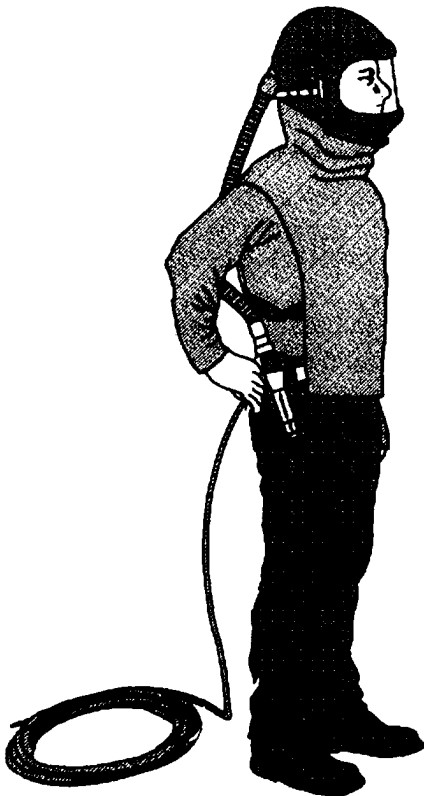

Figure 1-12.—Abrasive sandblasting hood.
3. Wear personal protective equipment. Include a supplied-air sandblasting hood, shown in figure 1-12, and hearing and hand protection.